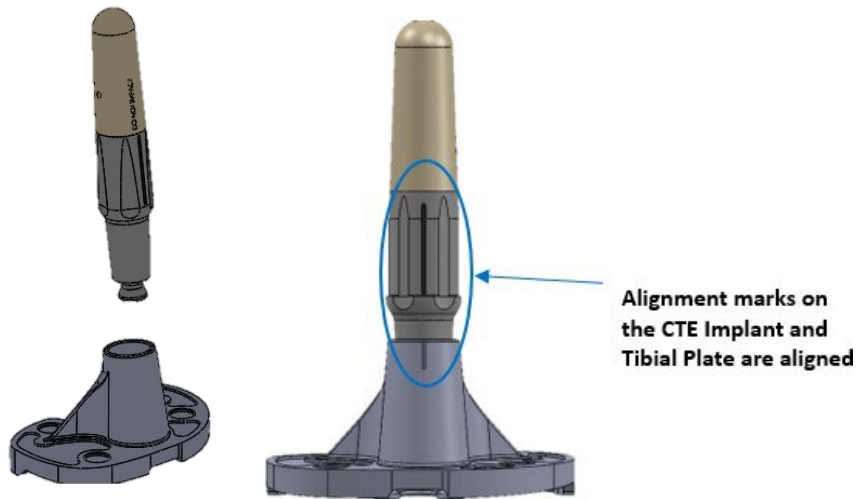

Figure 32
4. Align the alignment mark on the CTE Implant to the alignment mark on the Persona Tibial Plate, and insert the CTE implant taper into the Persona Tibial Plate taper until fully seated (**Figure 32**).